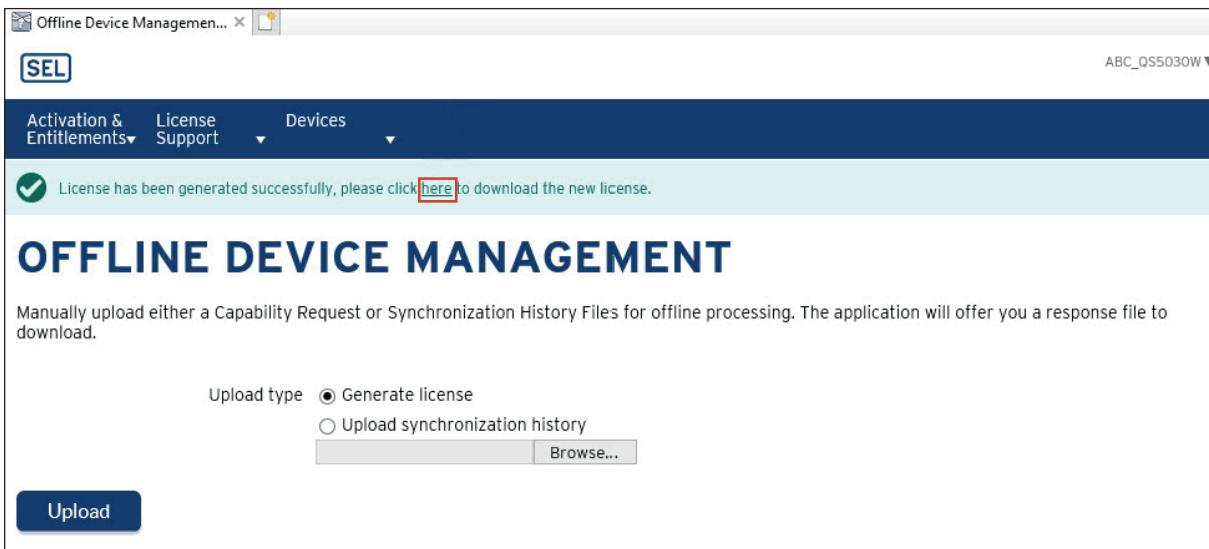

Figure D.18 Link to Download Capability Response File
- Step 10. Click the link highlighted in *Figure D.18* to download the Capability Response file.